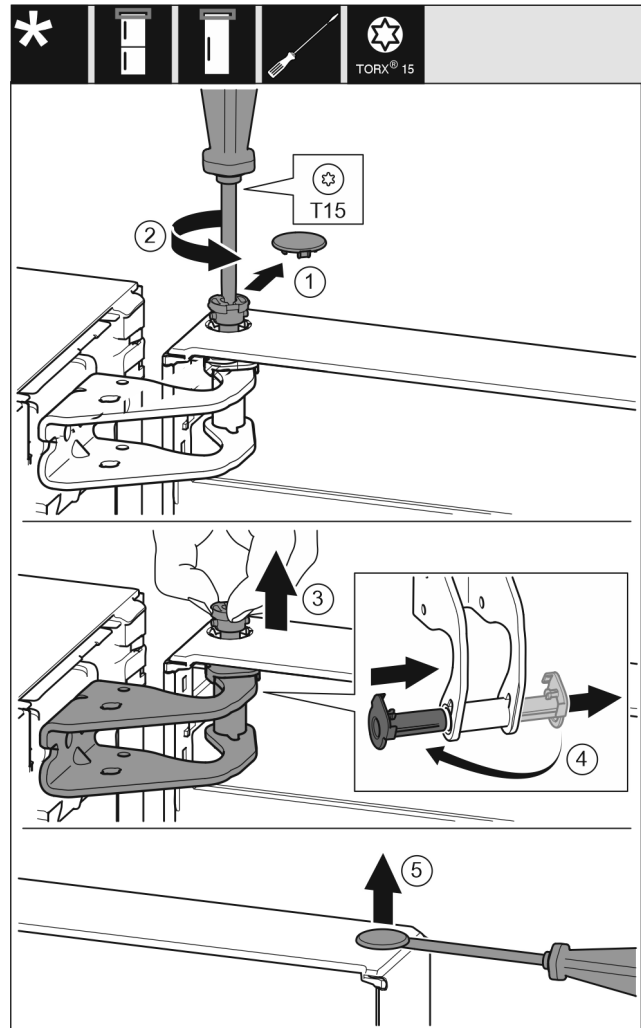

Fig. 12
- ▶ Carefully remove the protective cover. Fig. 12 (1)
- ▶ Loosen the bolts slightly with a T15 screwdriver. Fig. 12 (2)
- ▶ Hold the door and remove the bolts with your fingers. Fig. 12 (3)
- ▶ Pull the bearing bush out of the guide. Insert from the other side and latch into place. Fig. 12 (4)
- ▶ Carefully lift the plugs out of the door bearing bush with a slotted screwdriver and remove them. Fig. 12 (5)